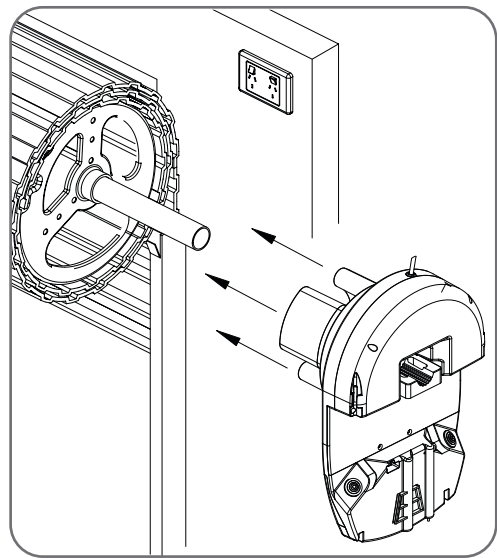

Fig 6.3
- Slide the opener over the door axle and into the drum of the door (**Fig. 6.3**).